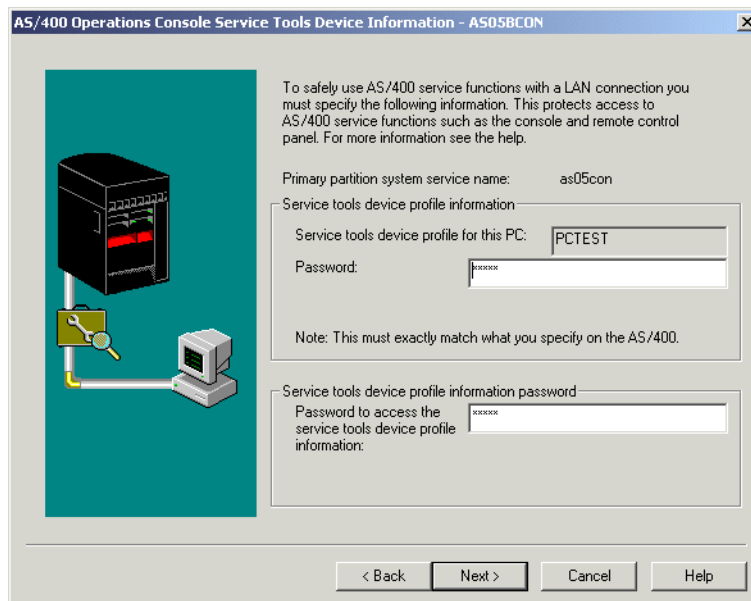

Figure 7-42 AS/400 Operations Console Service Tools Device Information screen - secondary
12. If the primary partition is configured for LAN connectivity, data is retrieved from the primary configuration. The passwords are displayed as asterisks (*****) as shown in Figure 7-42. Otherwise, if the primary partition has not been configured, you need to fill out all the fields.